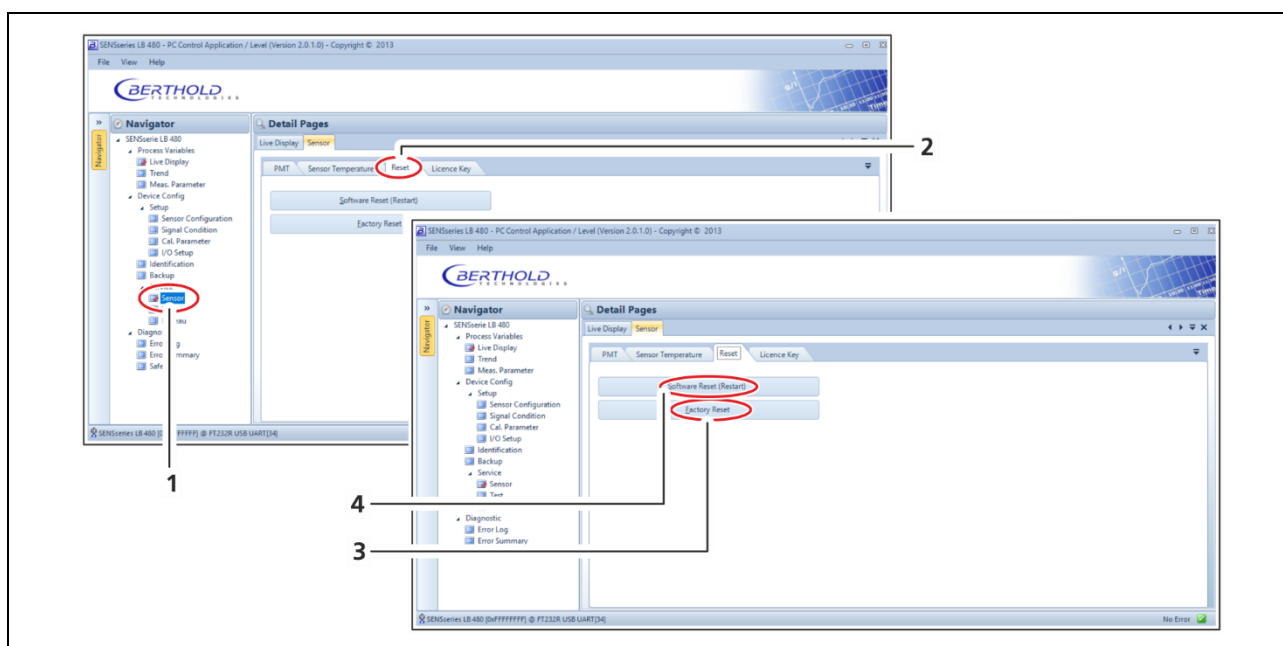

Fig. 8 Factory Reset and Software Reset (SW-Reset)
28. Open the software *LB 480-PC UserInterface* (Baudrate 38400) and click in the menu tree on **Device Config** ▶ **Service** ▶ **Sensor** (Fig. 8, Pos.1).
29. In the tab "Reset" (Fig. 8, Pos.2) click on the button <Factory Reset> and confirm with <Yes> (Fig. 8, Pos.3).
30. After the factory reset, perform a software reset by clicking on the <Software Reset> button (Fig. 8, Pos.4).